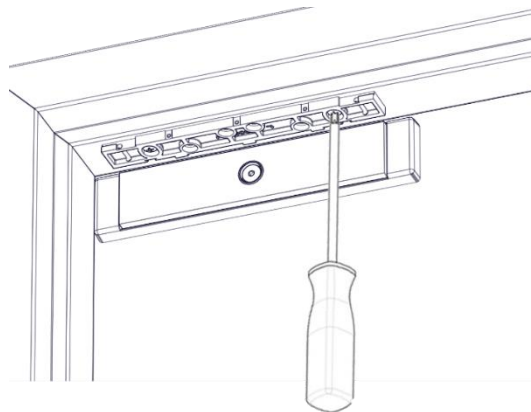

Figure 25. Tightening the Mounting Screws
5. ENSURE that the mounting bracket aligns with the marks, and TIGHTEN the mounting screws (see Figure 25, "Tightening the Mounting Screws").